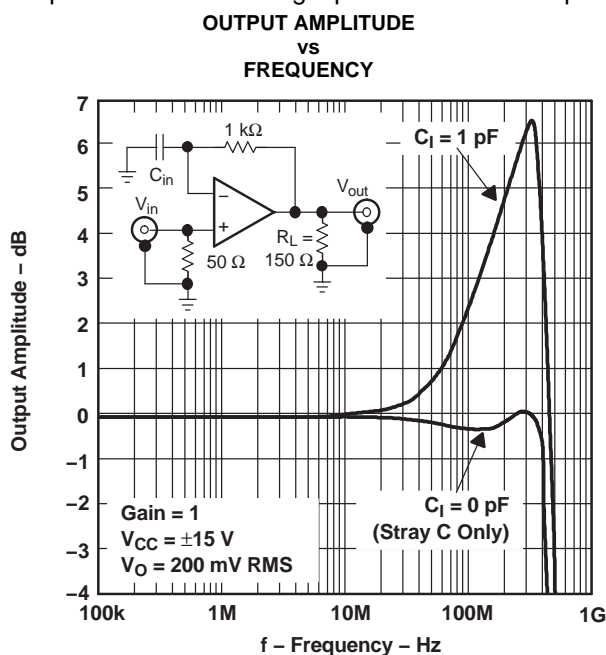
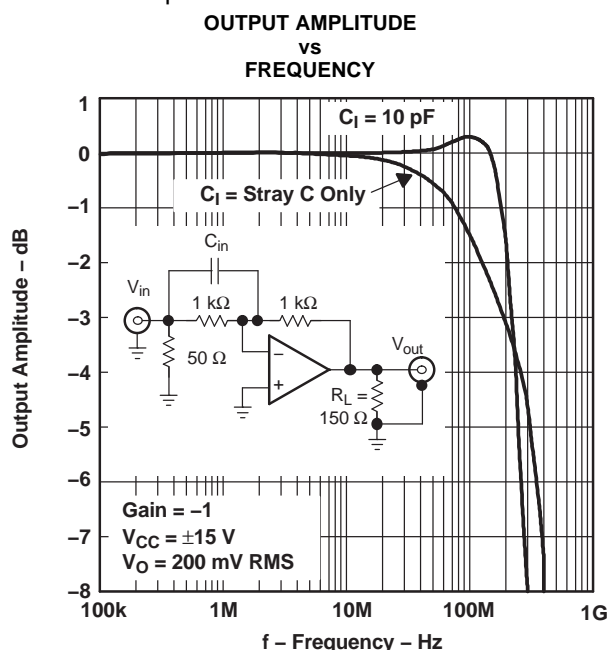

Figure 53.
Figure 54.
- **Input stray capacitance** - To minimize potential problems with amplifier oscillation, the capacitance at the inverting input of the amplifiers must be kept to a minimum. To do this, PCB trace runs to the inverting input must be as short as possible, the ground plane must be removed under any etch runs connected to the inverting input, and external components should be placed as close as possible to the inverting input. This is especially true in the noninverting configuration. An example of this can be seen in Figure 53, which shows what happens when a 1-pF capacitor is added to the inverting input terminal. The bandwidth increases at the expense of peaking. This is because some of the error current is flowing through the stray capacitor instead of the inverting node of the amplifier. Although, while the device is in the inverting mode, stray capacitance at the inverting input has a minimal effect. This is because the inverting node is at a *virtual ground* and the voltage does not fluctuate nearly as much as in the noninverting configuration. This can be seen in Figure 54, where a 10-pF capacitor adds only 0.35 dB of peaking. In general, as the gain of the system increases, the output peaking due to this capacitor decreases. While this can initially look like a faster and better system, overshoot and ringing are more likely to occur under fast transient conditions. So proper analysis of adding a capacitor to the inverting input node should be performed for stable operation.